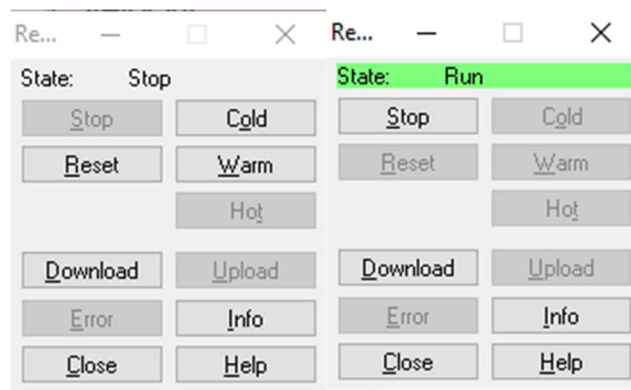

Figure 20: Download and Run Series 2
- After downloading, the window on the left of Figure 20 should appear; hit warm and the window should change to look like the window on the right of Figure 20 and the program is ready to run.